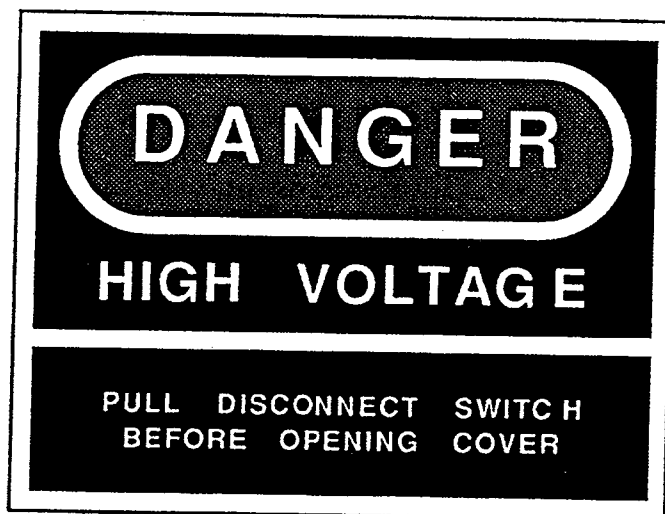

Figure 2-1 Warning Label on the Control Panel
The warning labels attached to the control panel, pumps, belt pulley guard, and access panels should be followed. They are shown in Figure 2-1, Figure 2-2, Figure 2-3, Figure 2-4, and Figure 2-5.
- The thermal storage unit is an automatic machine. When in operation, any and all motors may start without warning. Some motors may start even if the master control switch is in the "OFF" position. Never attempt to service the thermal storage equipment unless all electrical power is disconnected and **locked out**. Refer to Figure 2-1.